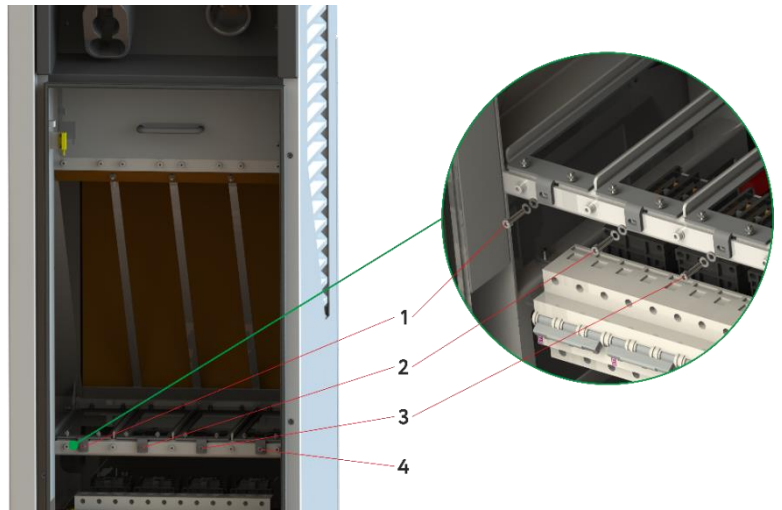

Figure 5.13. Installation location of modules
5. To install the modules on the lower level (Door 1), remove fasteners 1, 2, 3, 4 (fig. 5.13).